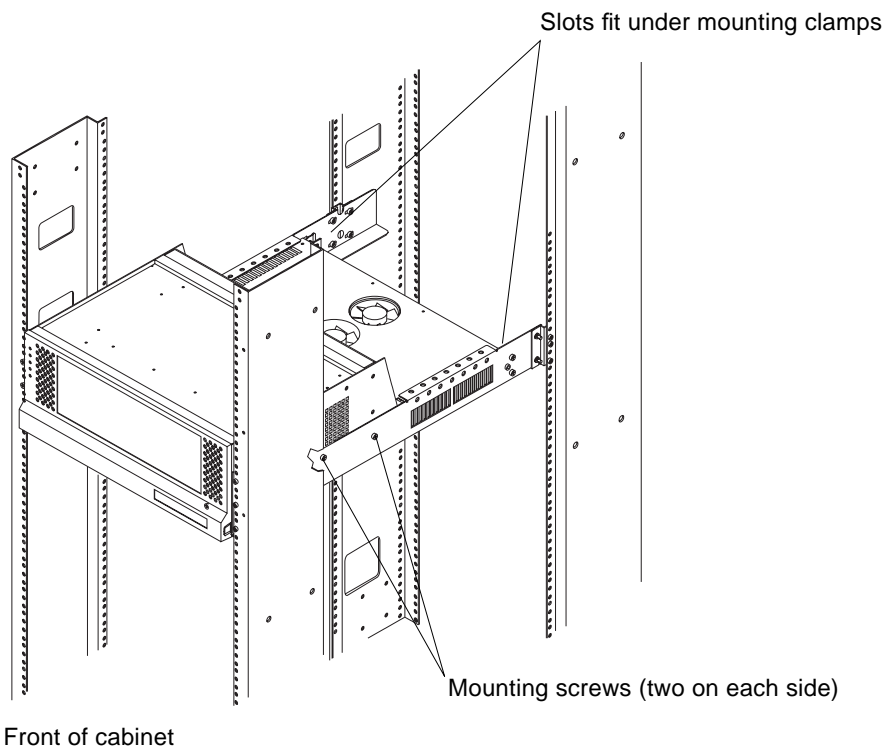

FIGURE 1-15 Installing the Controller Module Chassis
1. **Facing the front of the cabinet, set the controller chassis on the support rail and slide it into the cabinet** (FIGURE 1-15).
2. **Install two #10 screws in each side of the support rail and chassis** (FIGURE 1-15).